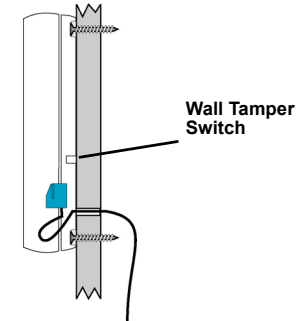

Figure 4 Mount the Transmitter to the Wall
1. Route the external wiring through the wall, as shown in Figure 4.